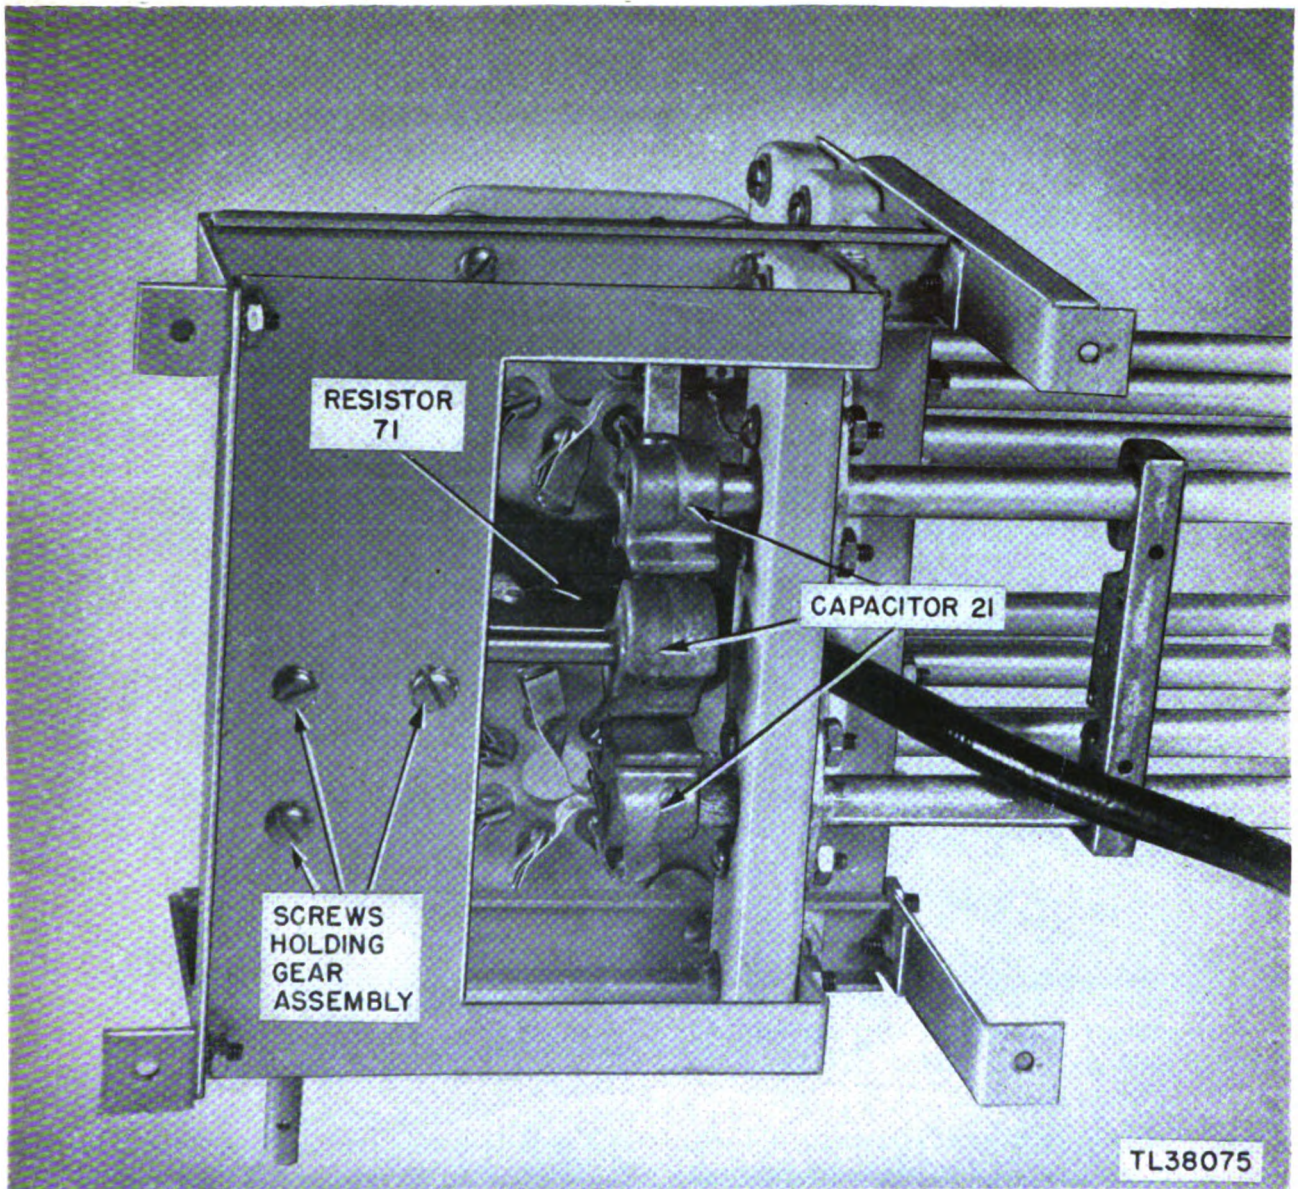

Figure 162. Oscillator assembly, underside, showing capacitor 21 and resistor 71.
*y.* The gear assembly may now be removed by unscrewing the three screws that have become accessible (fig. 162).